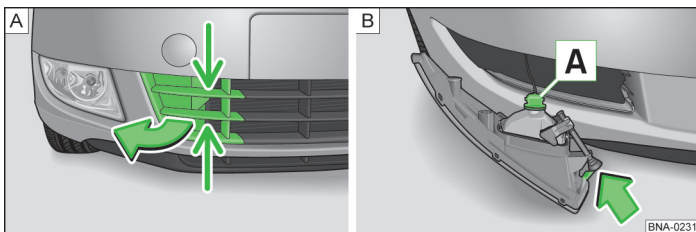

Fig. 85 In the bumper front right: remove the fog lamp cover
2.	Grasp the grille at the points marked with the » fig. 85 - A , and remove it in the direction of the arrows.
3.	Insert your hand into the opening left by the grille and press the retaining spring » fig. 85 - B - arrow.